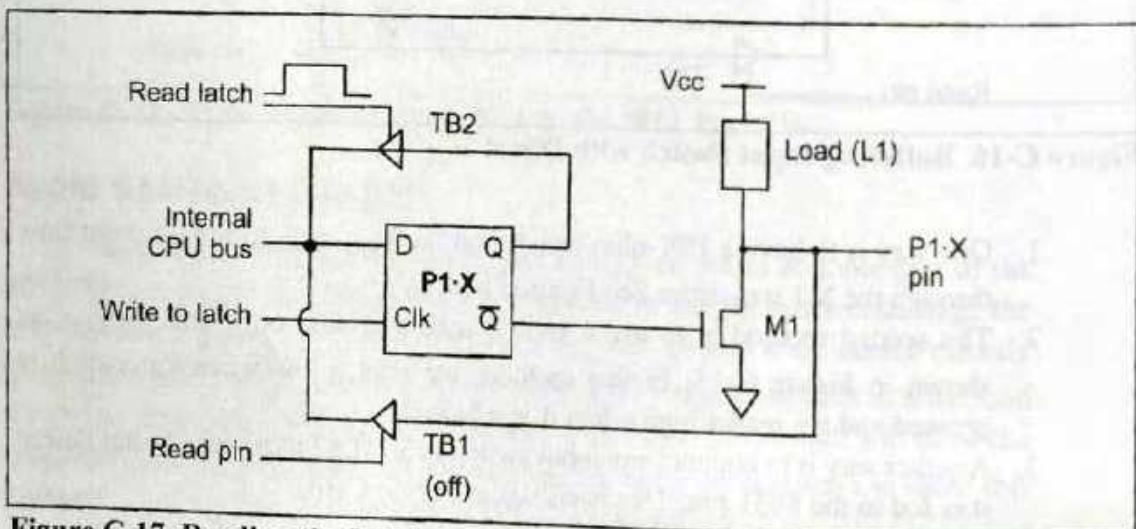

Figure C-17. Reading the Latch
1. The read latch activates the tri-state buffer of TB2 (Figure C-17) and brings the data from the Q latch into the CPU.